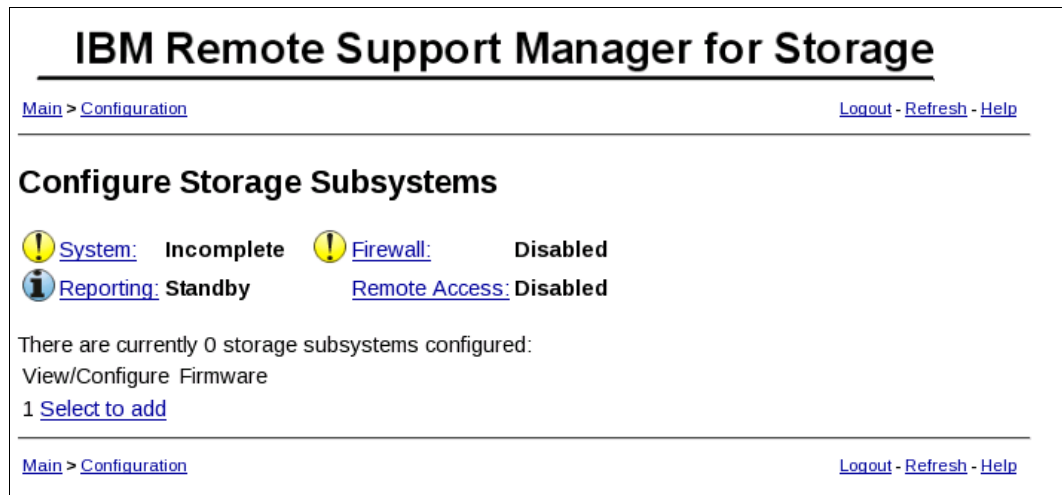

Figure 16-16 RSM configure storage subsystem
13. Click **Select to add** to define a storage subsystem in RSM (Figure 16-16).